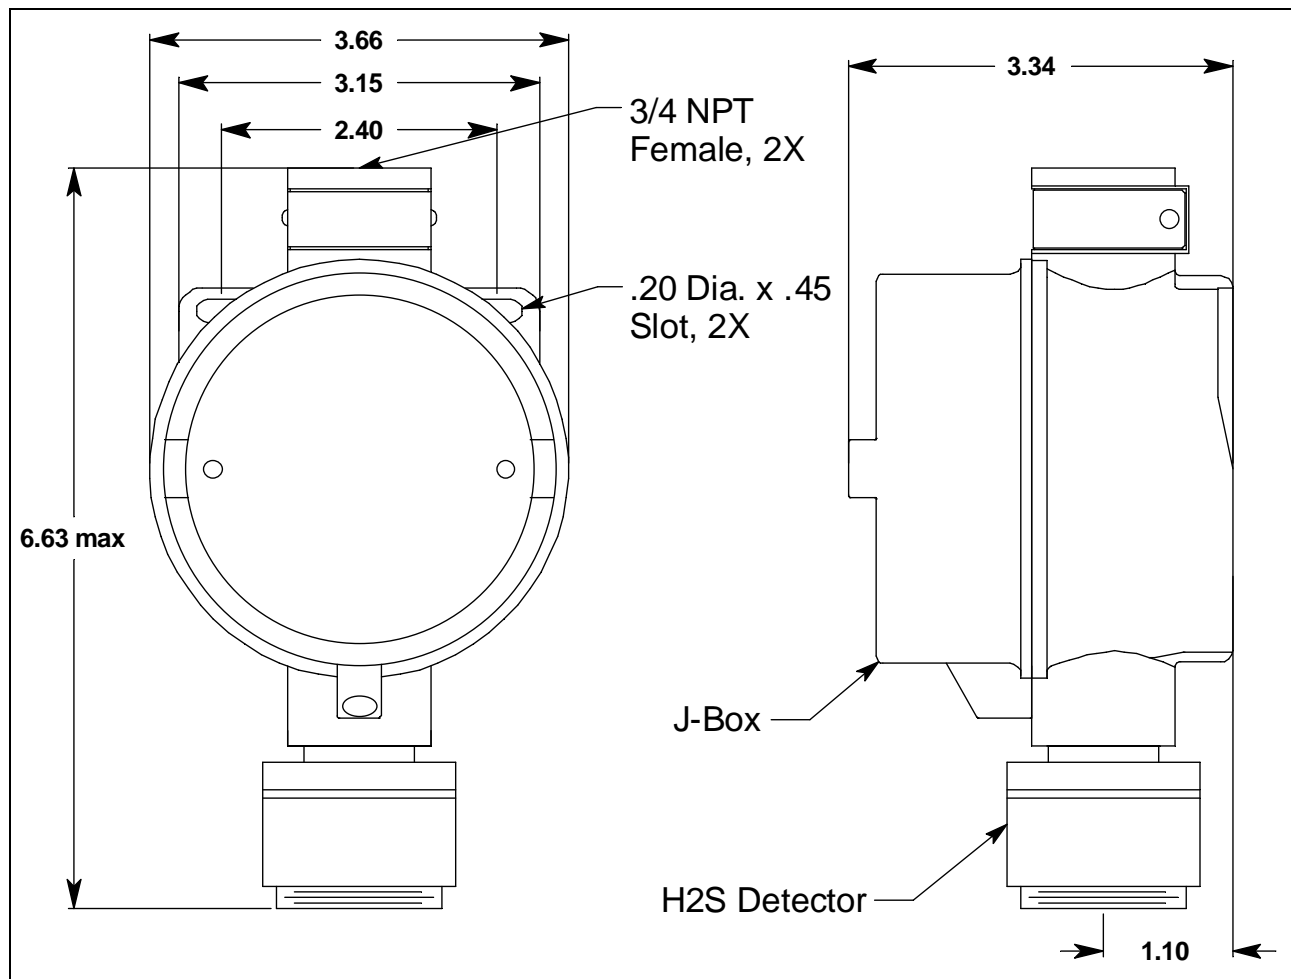

Figure 4: Mounting the H₂S Transmitter
2. At the monitoring site you select, hang or mount the junction box with the detector facing down (see Figure 4).